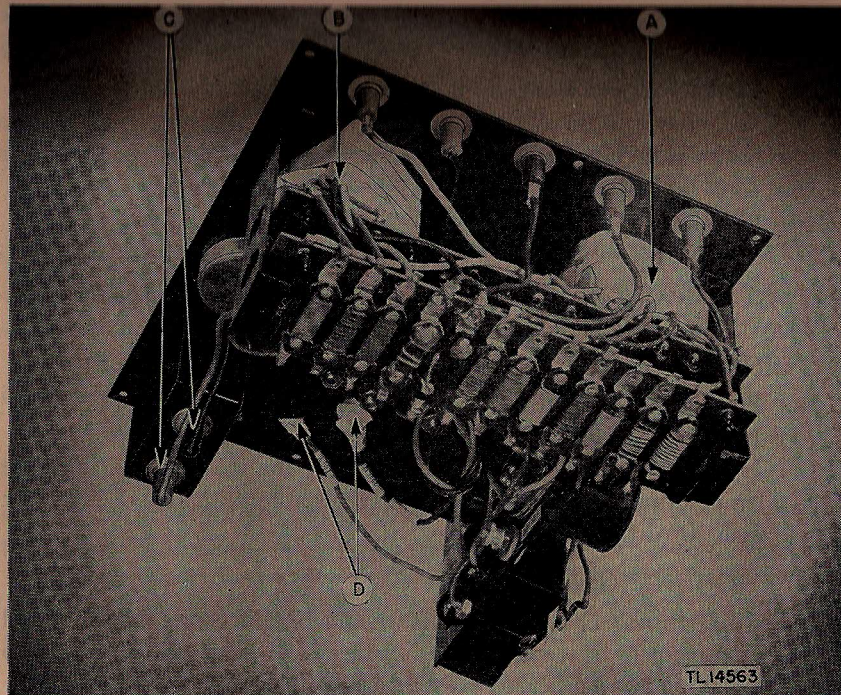

Figure 12. Test Unit I-176, bottom view, masking of components.
(1) DISASSEMBLY.
(2) MASKING. Cover the following components with masking tape as shown in figures 12 and 13.
- (a) Complete selector switch, item A, figure 12.
- (b) Complete selector switch, item B, figure 12.
- (c) Contacts on high-voltage pin jacks, item C, figure 12.
- (d) Lugs on battery leads, item D, figure 12.